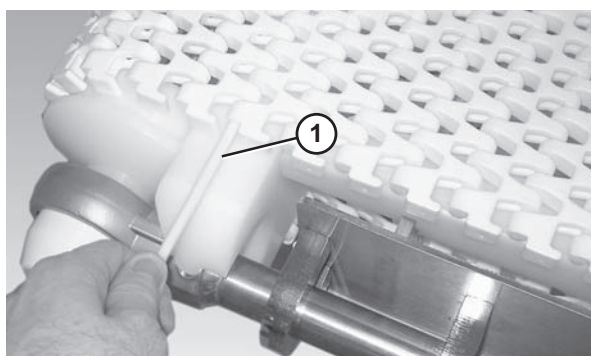

Figure 40
5. Insert the belt rod (Figure 40, item 1).